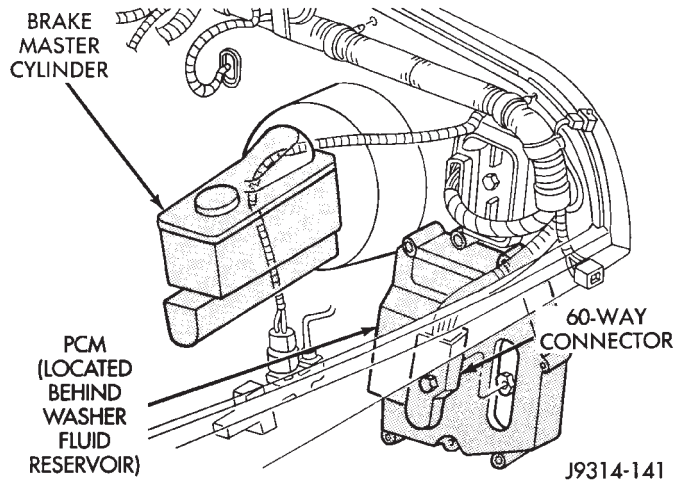

Fig. 1 PCM—YJ Models
(1) Verify that the 60-way connector is fully inserted into the connector of the Powertrain Control Module (PCM) (Figs. 1 or 2). Verify that the connector mounting bolt is tightened to 4 N·m (35 in. lbs.) torque.